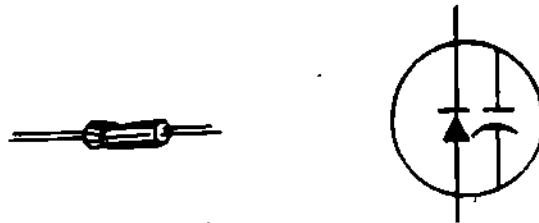

Figure 22
- 24) An illustration and schematic symbol of a varactor are shown in Figure 22.